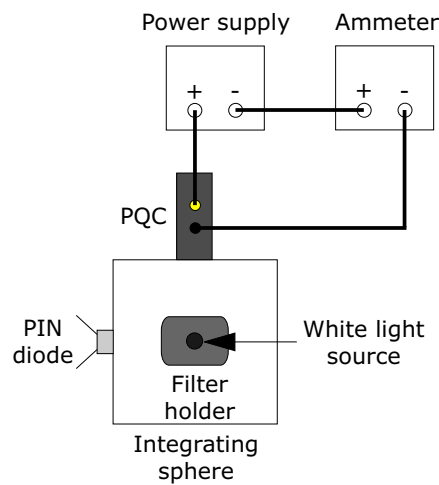

Figure 1: Experimental setup for measurement of the I-V characteristic.
- In the circuit shown in Fig. 1 the PQC is forward biased. Initially set the voltage on the power supply to 0 V and set the current limit to 30 mA. Read the current flowing through the diode from the ammeter. Record the current and the voltage.
Using the setup shown in Fig. 1, exchange the power supply leads and therefore reverse bias the diode. Starting from 0 V increase the voltage on the power supply to 10 mV. Record the current on the ammeter. Using this current value, find the shunt resistance using: